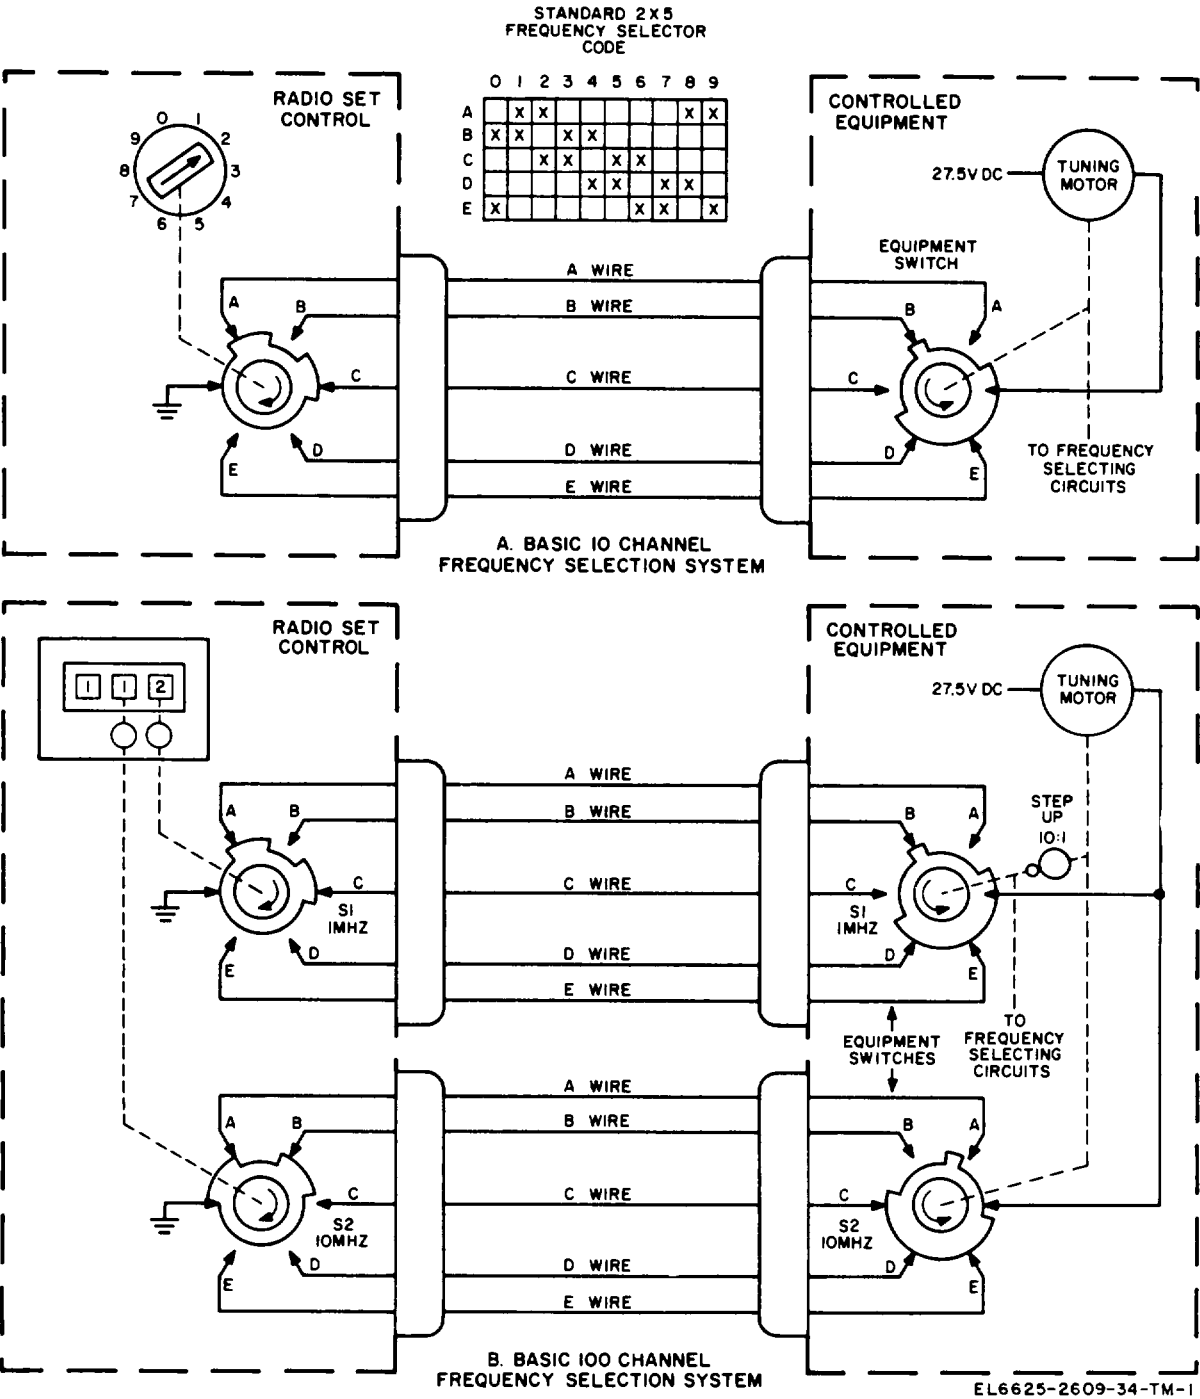

Figure 2-1. Basic two-out-of-five frequency-selection system.
a. The two-out-of-five (2 x 5) frequency-selection system requires five control wires for each controlled digit in a channel frequency. Frequencies are selected by simultaneously grounding two wires out of each five-wire group. A, figure 2-1, shows a simplified system for controlling an equipment having only 10 channels. Since each channel may be represented by a single digit, only one group of five control wires is required.
b. For example, when the radio control is set to position 2 (A, fig. 2-1) control wires A and C are grounded. The tuning motor then drives the switches and the frequency-selecting circuits in
the controlled equipment to a point where the ground is removed from wires A and C and the operating voltage is removed from the motor. By setting the radio control to the other positions, related two-wire combinations are grounded in accordance with the standard 2 x 5 frequency-selector code shown in figure 2-1.
c. B, figure 2-1, shows a system for controlling an equipment having 100 channels. Since two controlled digits comprise any one frequency channel, two switches are required in both the radio control and the controlled equipment. Two groups of five control wires interconnect the switches. To simplify the explanation, the 100 channels have been assigned frequencies from 100 to 199 MHz, with 1-MHz spacing between channels. Switch S1 is the 1-MHz selector and switch S2 is the 10-MHz selector. The radio control is shown set to 112 MHz. Of the five-wire group interconnecting switch S1 in the radio control and switch S1 in the controlled equipment, wires A and C are grounded, representing the digit 2 (2 MHz). Wires A and B, representing the digit 1 (1 MHz), are grounded in the five-wire group interconnecting switch S2 in the radio control and switch S2 in the controlled equipment. The tuning motor is driven until the ground is removed from wires A and C of S1 and A and B of S2. The gearing between the tuning motor and the switches in the controlled equipment is such that switch S1 (the 1-MHz switch) makes 10 revolutions for each complete revolution of switch S2. This provides 100 different points (channels) at which the tuning motor may be stopped.
d. Solid-state frequency-selection circuitry that uses the 2 x 5 selection system can be used in the controlled equipment, either in place of, or in combination with, the motor-driven arrangement (fig. 2-1). In any case, a group of five wires is required for each controlled digit, with selection being accomplished by grounding two of the five wires.